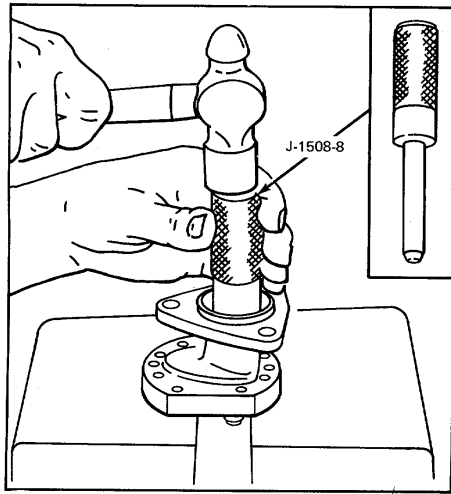

Figure 6. Installing Inner Oil Seal
- b. With the pump body supported on woodblocks (Fig. 6), insert the pilot of the installer handle in the pump body so the seal starts straight into the pump flange. Then drive the seal in until it bottoms.